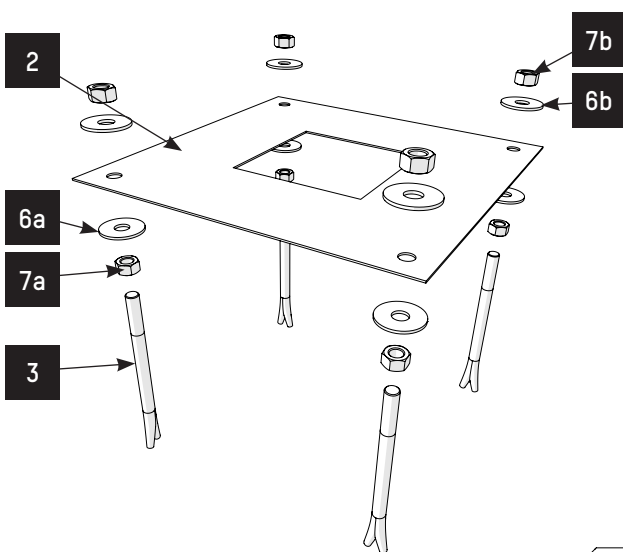

Fig. 6 - Fixing frame
- Insert the four anchoring rods (3), each with a flat washer (6a) and a nut (7a) into the holes of the fixing frame (2). The netting must face upwards as illustrated in Fig. 6.